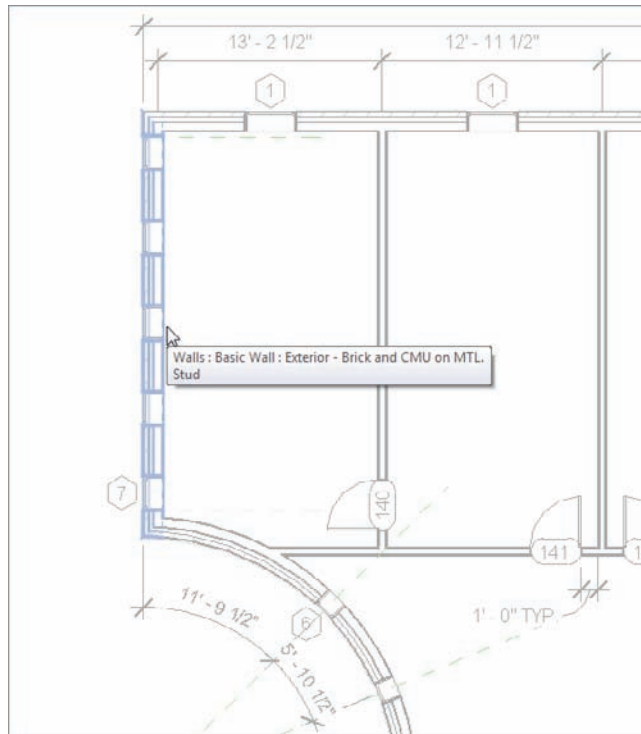

FIGURE 6.9 Picking the inside face of the first wall
3. After the wall becomes highlighted and you are sure you are on the inside of the wall, pick it (see Figure 6.9).